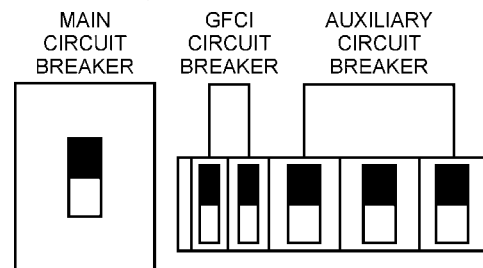

Figure 45. Main, Aux. and GFCI Circuit Breakers (ON)
10. Place the **main, GFCI, and aux.** circuit breakers in the **ON** position (Figure 45).